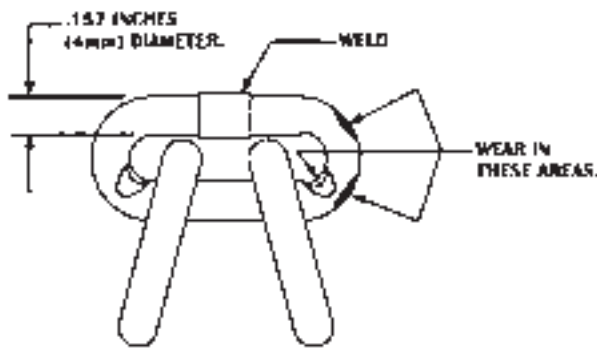

Figure 15. Chain Wear Areas
3. Slack the portion of the chain that normally passes over the lift-wheel (sprocket) or idler sprocket on multi-reeved hoist. Examine the chain links for wear ( see figure 15). If the wire diameter anywhere on the link measures less than 90% of the nominal wire diameter, the chain must be replaced.